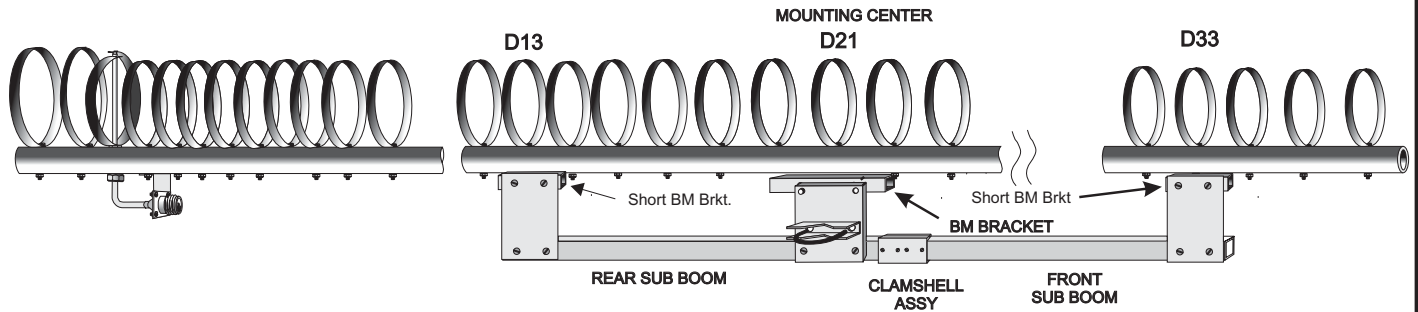

FIGURE 1.
- 2) Locate the two 53" sub boom pieces, and note that the rear 53" section has six holes, and the front section has only four. Check Figure 1 for the correct assembly layout, and lay out the parts in order. Note that the clamshell brackets have alignment marks to assure proper assembly.